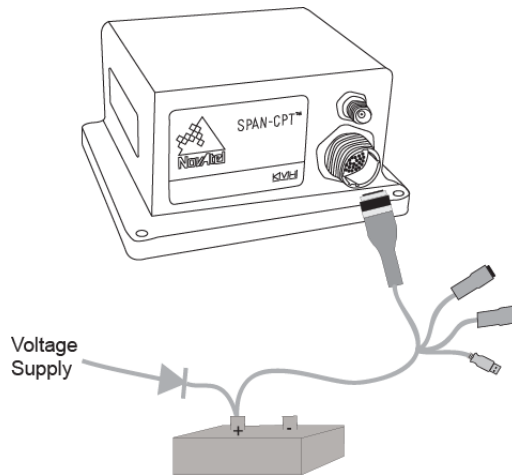

Figure 6: Apply Power to the SPAN-CPT
5. **Apply power to the SPAN-CPT.** See *Figure 6* on the following page.